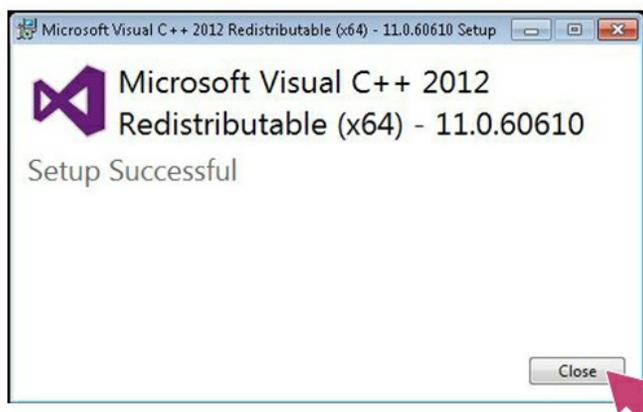

FIGURE 20
20. Once this portion of the installation is complete the following screen will appear. Click **Close** to continue. See Figure 20.